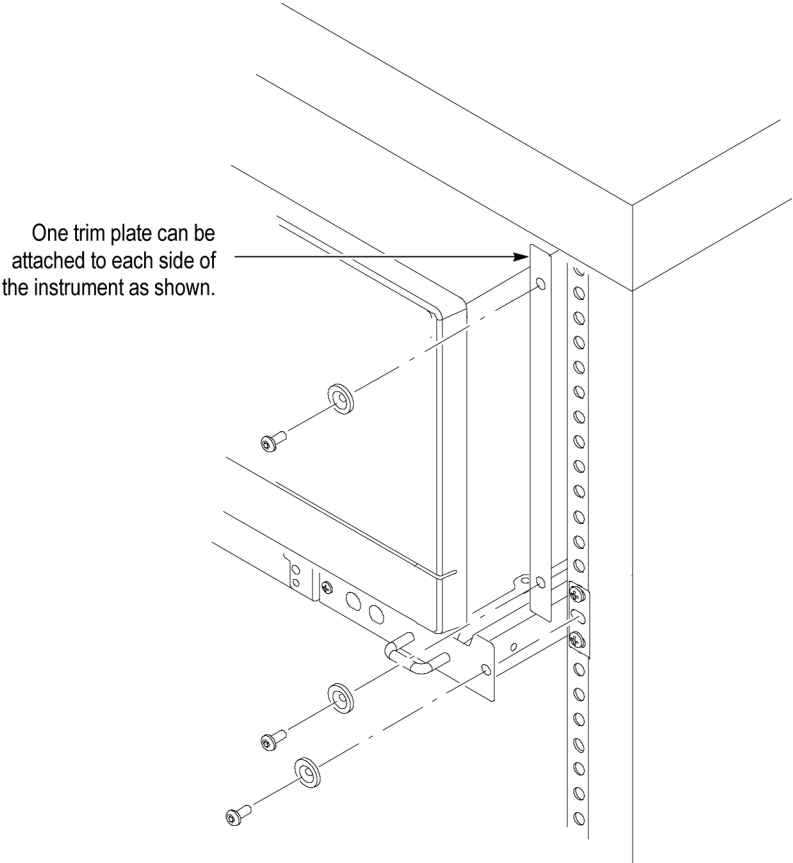

Figure 9: Installation of trim plate
8. Install the appropriate trim plates as shown. (See Figure 9.)